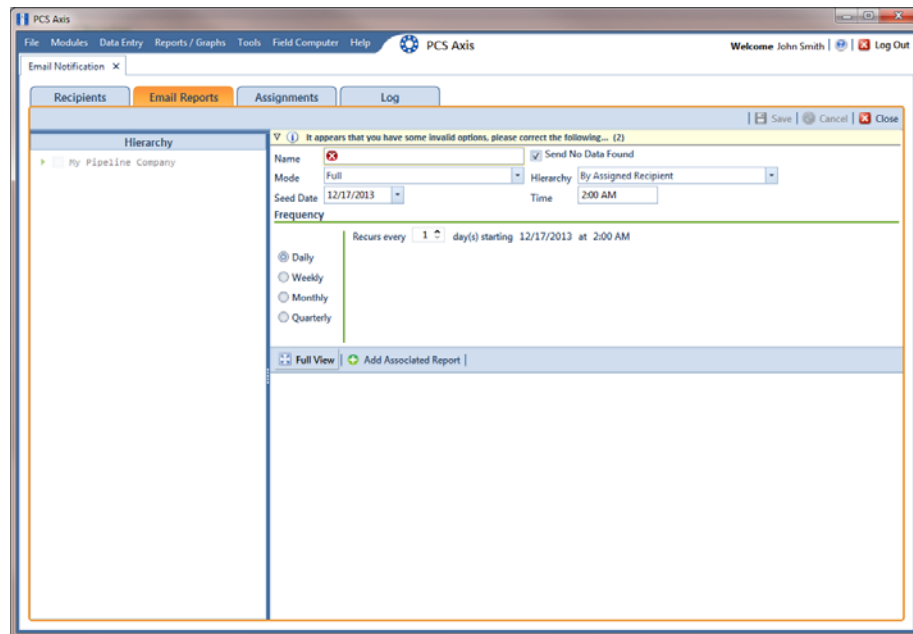

Figure 12-7. Email Reports
- 2 Click **Email Reports** **Email Reports**, then click **Add** (Figure 12-7).
- 3 Type a name for the email report in the **Name** field. Fields requiring information include a  red icon, such as *Name* shown in the previous example (Figure 12-7, page 536).